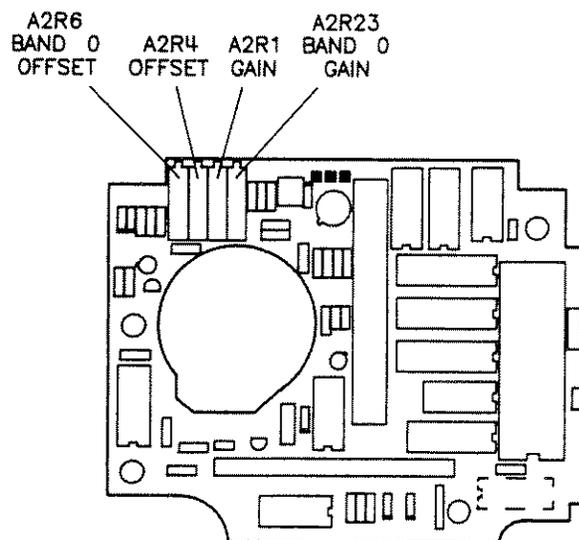

Figure 5-30. Frequency Reference Adjustment Locations
3. Adjust A2R4 (OFFSET) for a DVM reading of 3.000 ± 0.005 V dc (see figure 5-30 for the adjustment locations).